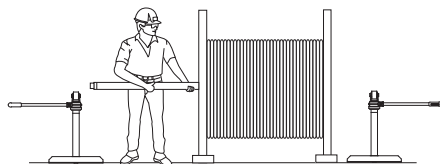

Figure 1
3. Position the spindle through the center holes of the cable reel. (Fig. 1)